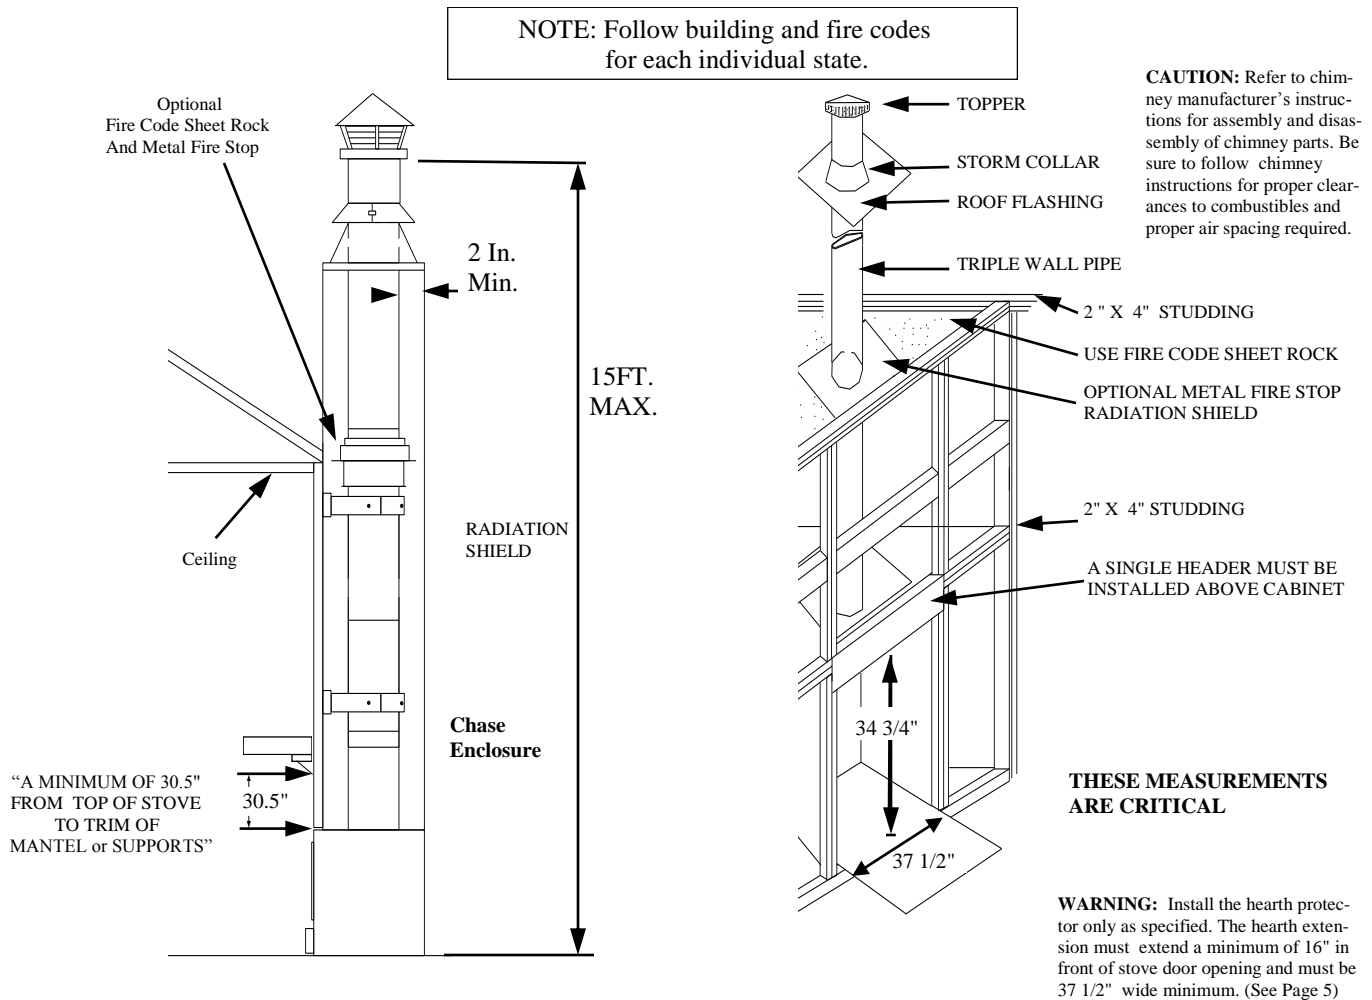

FIGURE 14 CHASE ENCLOSURE AND CORNER LOCATION FRAMING
3. Clearances from mantel, and trim to the top of stove must be a minimum 30.5" (See Page 16, Figure 14).
- b) 2" x 4" framing above the unit must be turned flat. This allows proper clearance from framing to chimney (2" minimum). (See Page 16, Figure 14).